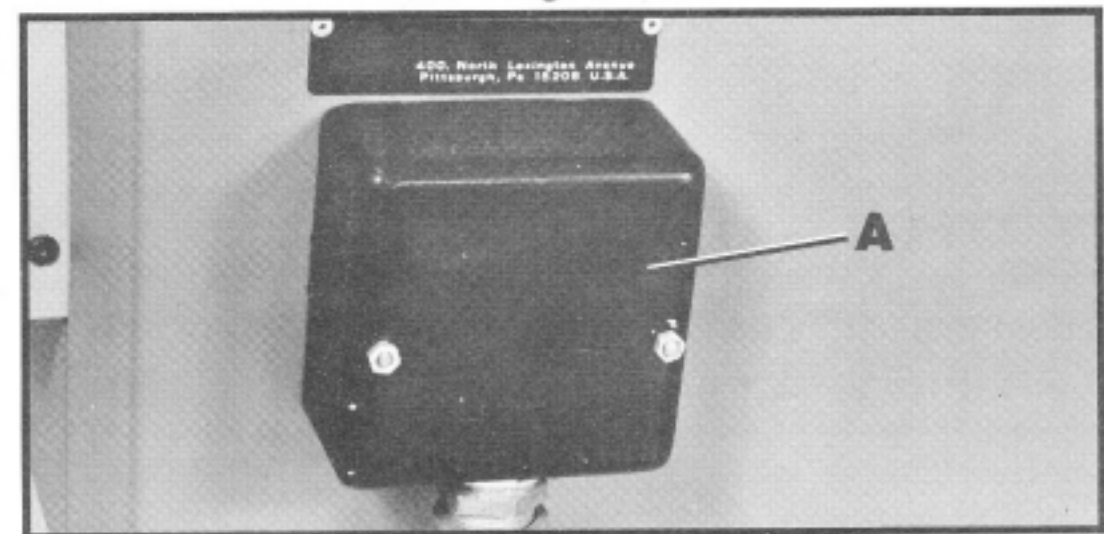

Fig. 7
Before connecting your machine to an electrical power system, make sure the motor rating agrees with the electrical system it is to be connected to. The single phase planer is shipped wired for 230 volts only and the three phase planer is shipped wired for 230 volts unless 460 volts was specified. In all cases remove the black terminal strip cover (A) Fig. 7, located on the rear of the machine. Bring the power line up through the connector located on bottom of the terminal strip cover and proceed as follows: